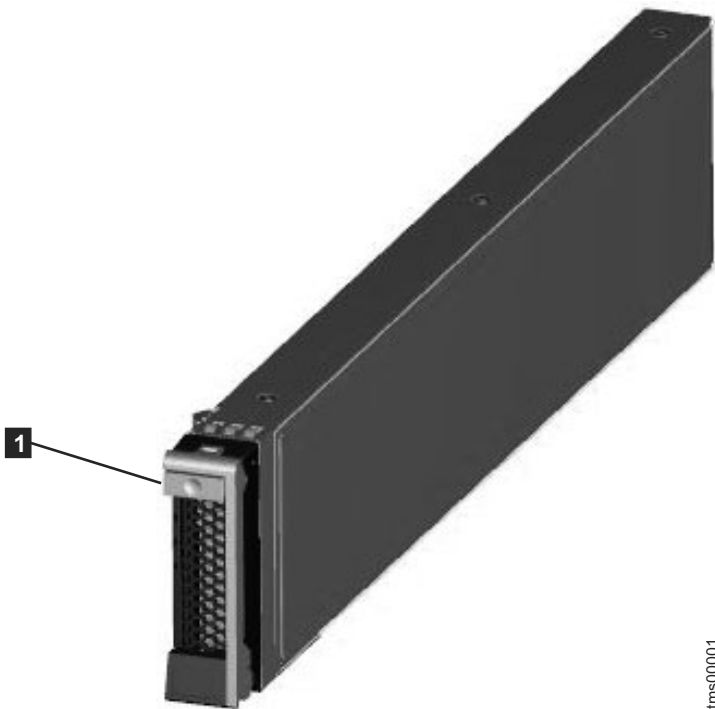

Figure 15. Flash module
3. Unlock the failed module by pressing the latch at the top of the handle, shown in Figure 15.